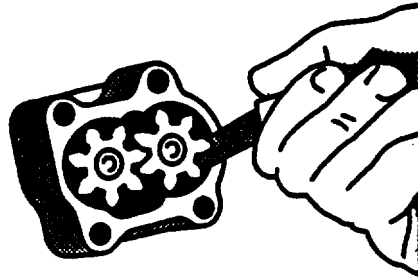

FIGURE 3-37. Measuring Oil Pump Radial Clearance
- e. Using feeler gage, check radial clearance between gear and pump housing, refer to FIGURE 3-37. Clearance standard is 0.004 to 0.006 inch (0.10 to 0.16 mm). Maximum permissible radial clearance is 0.008 inch (0.20 mm).